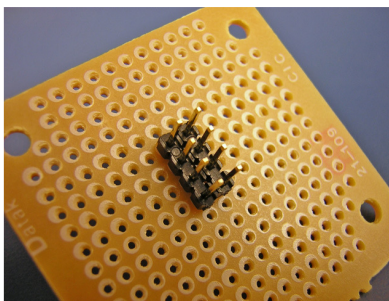

Figure 1. Pin Headers for Jumper
1. To create the 4x2 pin header, we need to combine two 4x1 headers broken off the large array in your kit, they simply snap apart between pins (try to use a needle-nose pliers to be sure it breaks in the right place). We will use a jumper block to make the necessary connections. The two 4x1 pin headers will need to be placed in parallel to each other so that the jumper block connects together one pin from each of the headers, as shown in Figure 1.